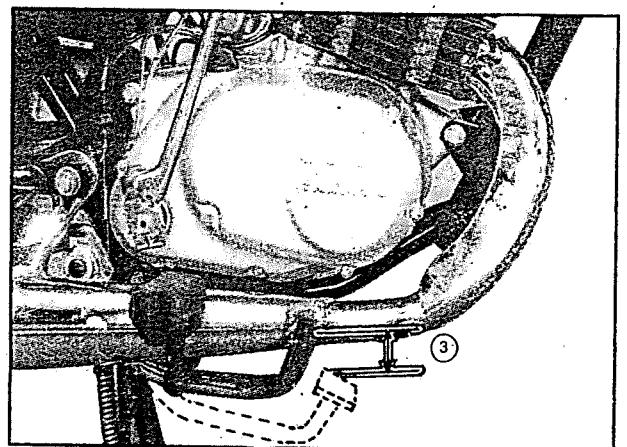
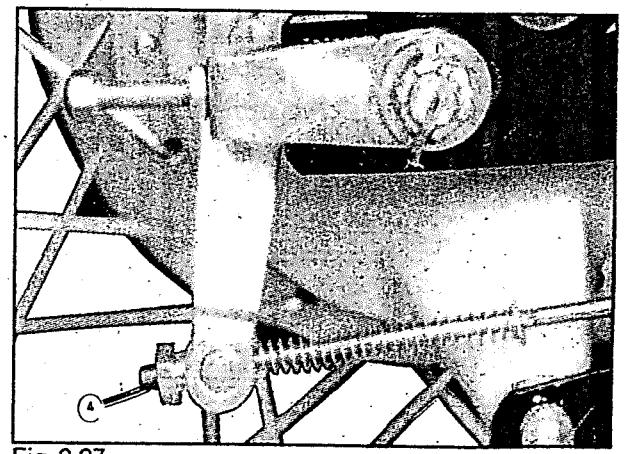

Fig 2.26
Fig 2.27
- Adjust the free travel of the brake pedal (3) (fig 2.26) to 20-30 mm by turning the rear brake adjusting nut (4) (fig 2.27)